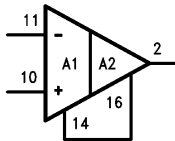

FIGURE 1
**Operational Amplifier DC Electrical Characteristics** Unless otherwise specified, all limits guaranteed for TA = 25°C, and Supply Voltage VS = ±15V. **Boldface** limits apply at temperature extremes. VCM = 0V, RS = 50Ω, the circuit configured as in *Figure 1*.
**Operational Amplifier AC Electrical Characteristics** Unless otherwise specified, all limits guaranteed for  $T_A = 25^\circ\text{C}$ , and Supply Voltage  $V_S = \pm 15\text{V}$ . **Boldface** limits apply at temperature extremes.  $V_{CM} = 0\text{V}$ ,  $R_S = 50\Omega$ , the circuit configured as in *Figure 1*.